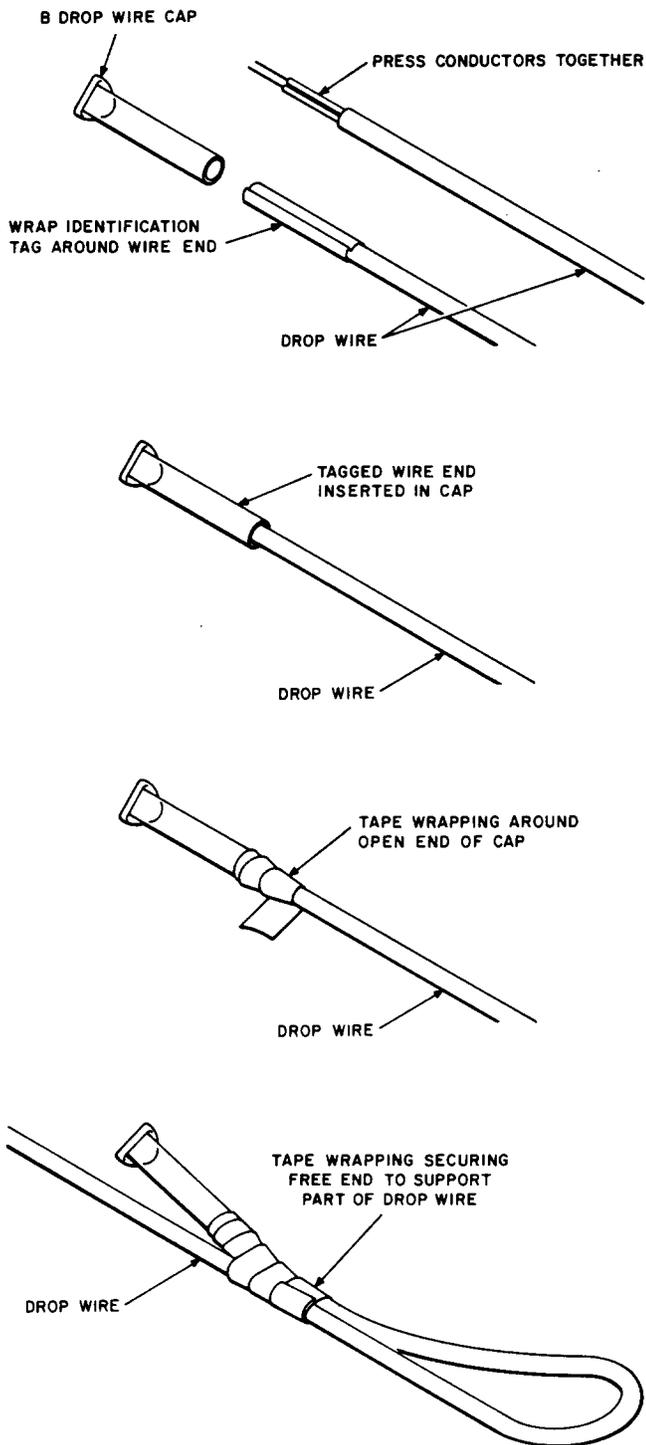

Fig. 3—Disposition of Disconnected Drop Wire
6.01 Fig. 3 shows the procedure for placing the B Drop Wire Cap.